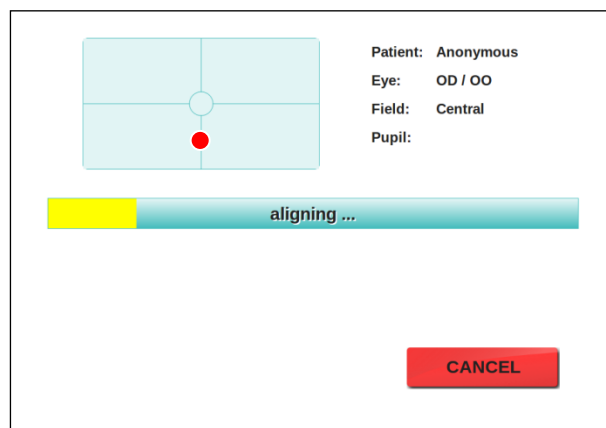

Figure 11 – Auto-alignment in progress
- Move the optical head to center the patient's pupil to the front lens (see Figure 11); the system will also display the pupil current diameter and which eye is being acquired; the red circle in Figure 11 represents the pupil and becomes green when proper centering is achieved.